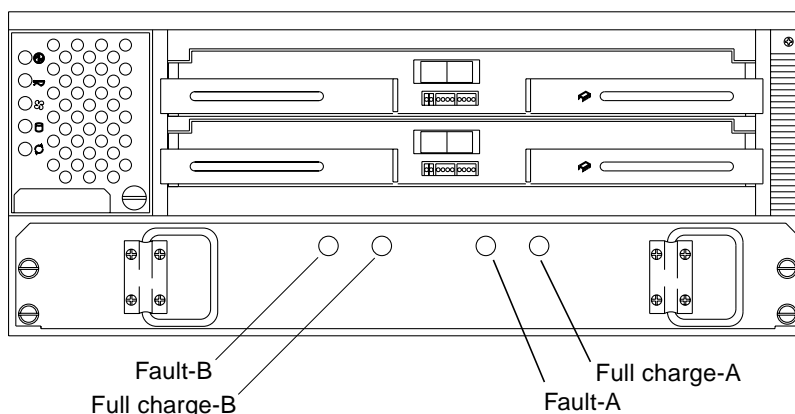

FIGURE 4-3 Battery Canister LEDs
2. Check the LEDs on the front of the battery (FIGURE 4-3).